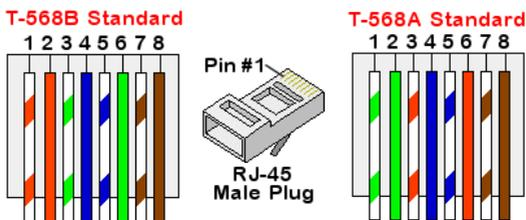

Figure 36: Standard cable wiring
- c. Insert the eight wires into an RJ45 connector, as described *Figure 36*.
- e. Connect the Ethernet connector to the RJ45 port on the communication board as shown in *Figure 36*.